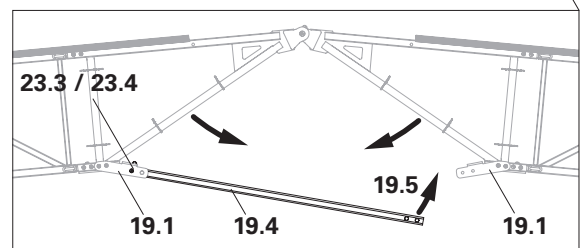

Fig. A4.02a
2. Lift the girder package with the crane until the ridge bar can be swivelled into the second bracket. (Fig. A4.02a)